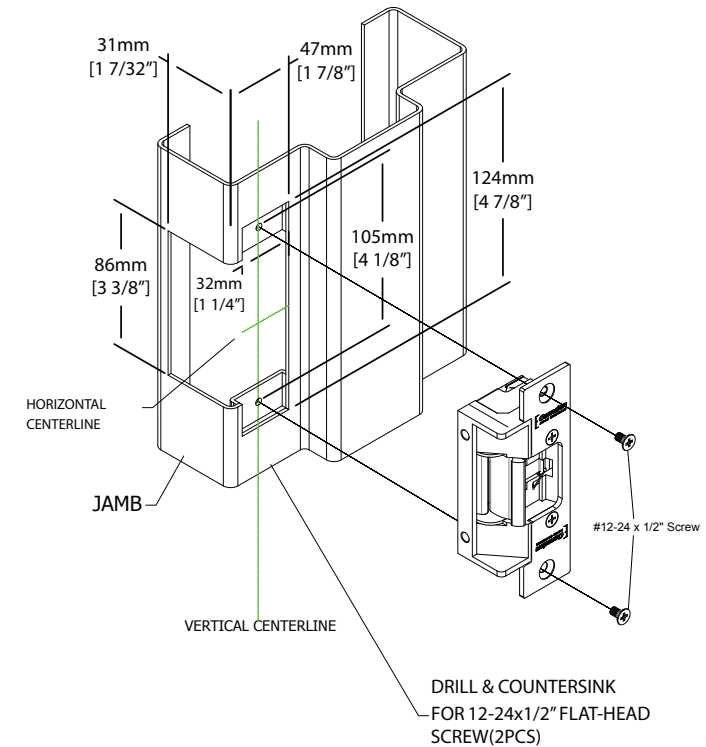

Figure 7.1 Mounting options for CX-ED2079
- Using a chisel, router, or jamb saw, cut out the mortise in the jamb along the marked outline. The size of the mortise should match the size of the electric strike. Make sure to cut to the depth specified in Figure 7.1
- Make sure that the door jamb has an appropriate cutout to accommodate the strike assembly. If not, refer to Figure 7.1 and cut the jamb if required.